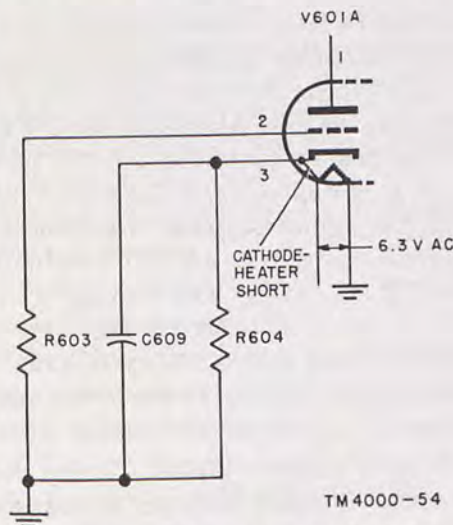

Figure 68. Heater-to-cathode short.
d. *Tube Cathode-to-Heater Leakage.* A 60-cycle hum can be caused by cathode-to-heater leakage in a tube, especially in the audio stages, which can readily pass low frequencies. As an example, the first audio frequency amplifier V601A would produce a 60-cycle hum if the cathode were to short to the heater. This tube is shown in figure 68. If the cathode and heater should touch, the heater and the cathode-bias resistor R604 would be in parallel as shown by the connection at point A. This would put 6.3 volts ac across R604. The 60-cycle voltage would modulate the electron stream and cause hum. This could happen in an RF tube also, in which case the 60-cycle signal would modulate the RF when a signal is tuned in and be demodulated by the detector. If a stage has no cathode-bias resistor and the cathode is grounded, the same defect would not be noticed